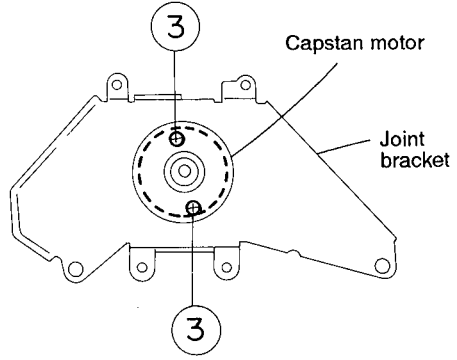

Fig.5-31
■ Removing the Capstan Motor (See Figs. 5-31)